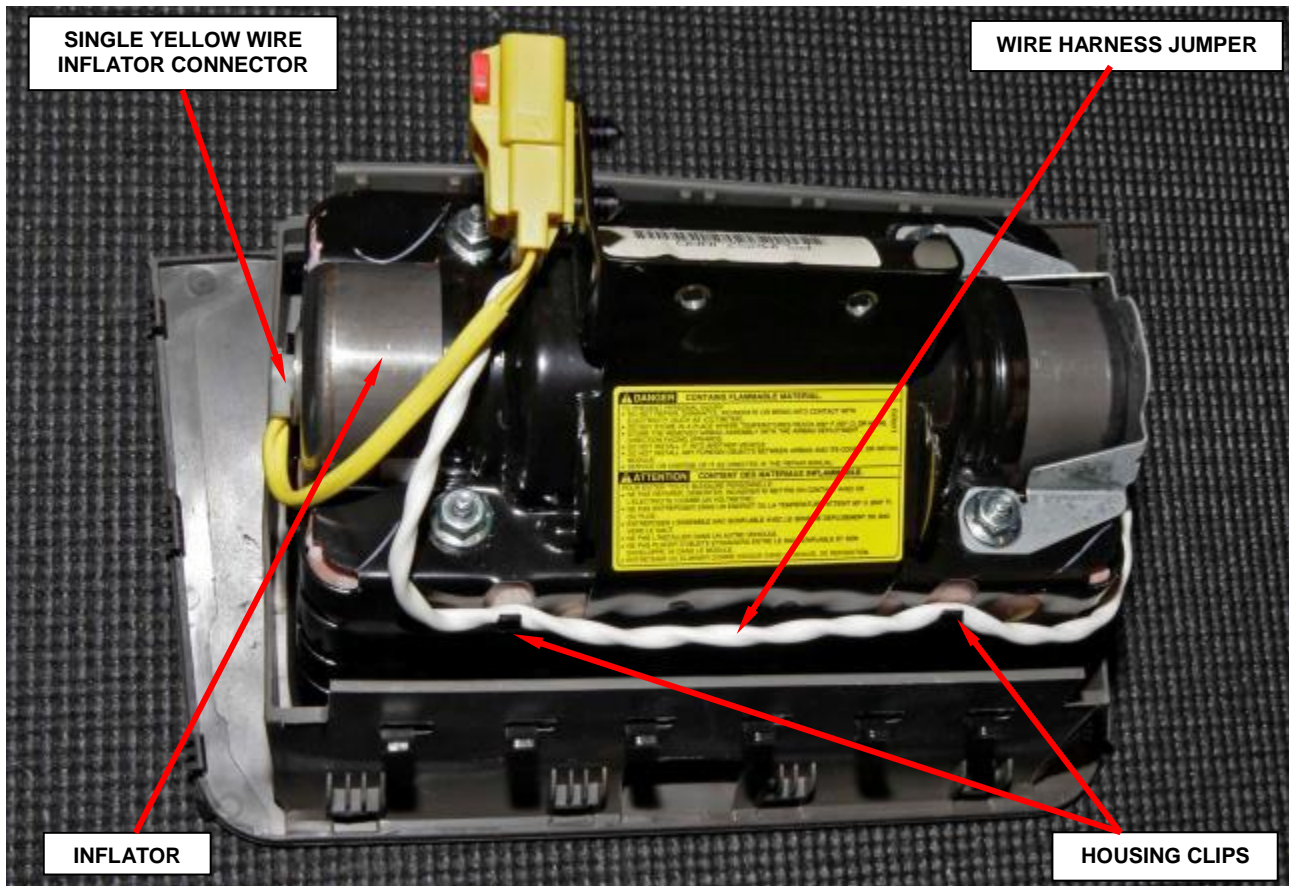

Figure 45 – Passenger Airbag Assembly
- b. Disengage the wire harness jumper from the housing clips in two places (Figure 45).
- c. Disconnect the single yellow wire inflator connector from the end of the inflator (Figure 45).
- k. Connect the single yellow wire inflator connector to the end of the inflator after removing the protective tape from the end of the inflator (Figure 45).
- l. Engage the wire jumper to the housing clips in two places (Figure 45).